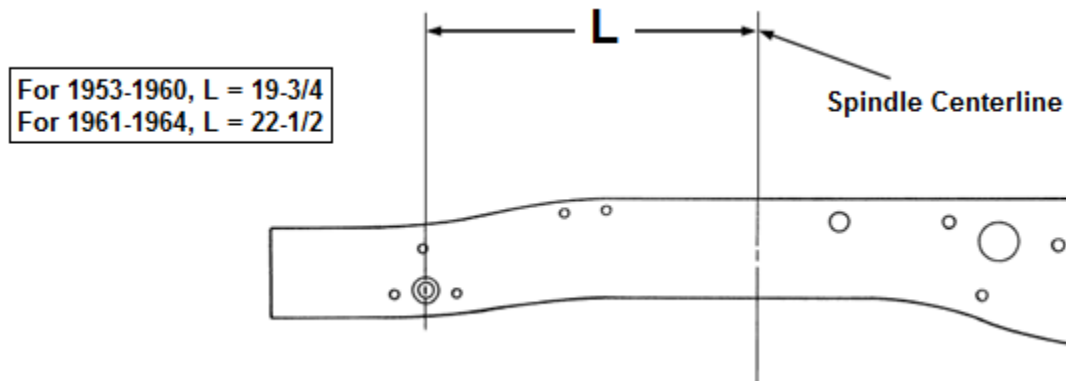

Figure 1- Spindle Centerline
3. For 1953-1960 pick-ups, measure back 19-3/4" from the center of the front spring shackle hole in the frame and scribe a vertical line around the rails. For 1961-1964, measure back 22-1/2". See **Figure 1**. This will be the spindle center line, where the front wheels will be. As a final check, just to be safe, you could temporarily place a fender on the frame and stand a wheel in place in the opening, centering the wheel in the fender opening. Slide a bar or broom handle through the wheel center hole. It should fall on your correct axle centerline. If the crossmember is installed in the wrong place now, it cannot be compensated for later. REMEMBER THE BASIC RULE-MEASURE TWICE, WELD ONE.